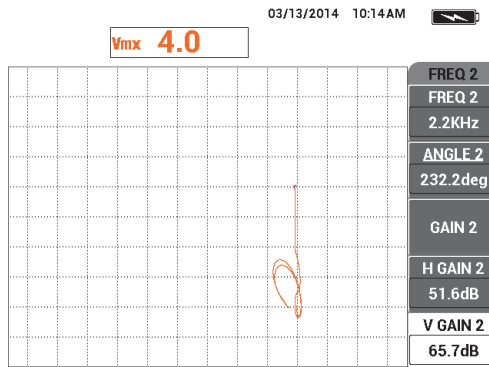

Figure 5-128 Adjusting the V GAIN 2 value
22. Move the probe over notch B, and then, while holding the probe at this position, adjust the **V GAIN 2** (E key) until the mix signal extends upward from the null point 4 vertical divisions (see Figure 5-128 on page 217).